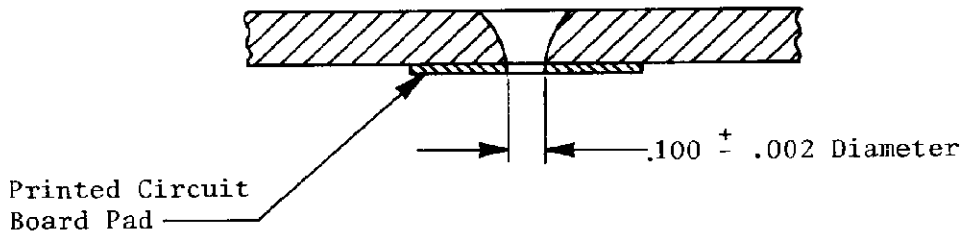

Figure 2
- B. Hole shall be as indicated in Figure 2.